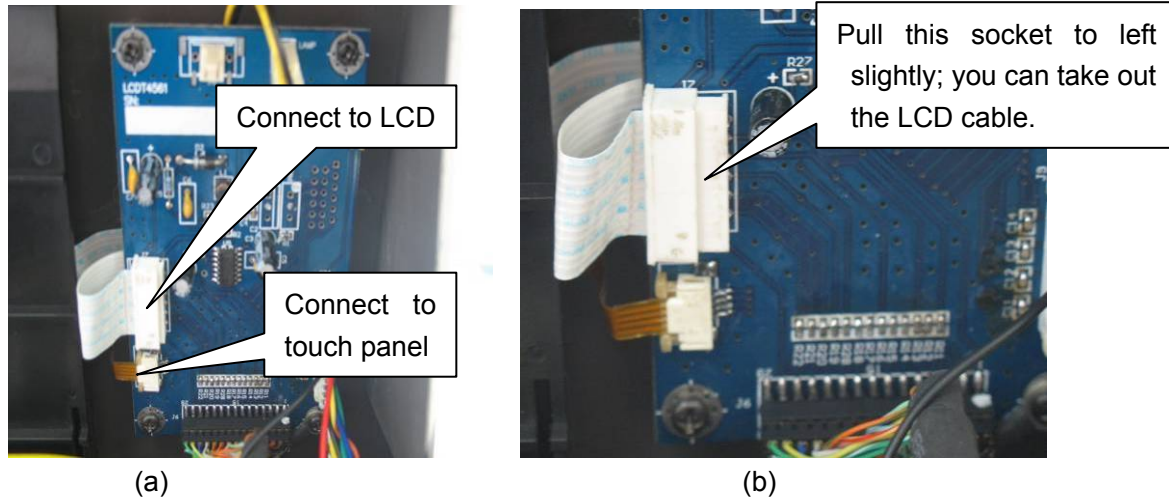

Figure 3-26
- 1、Lift the top cover of instrument, you can see the LCD transition board at the right side of LCD, as shown in figure 3-26 (a).